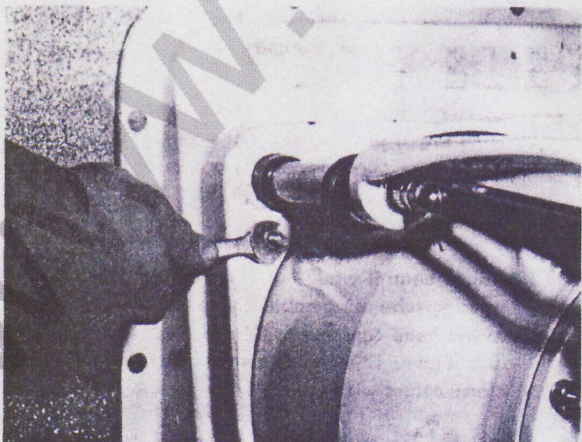

Figure 13
- 13 Fasten control cable end to transom adapter at hole drilled in step 4 using one 1/4"-28 hex nut (33) and one 1/4" flat washer (21) on each side of the transom adapter, applying silicone sealer between flat washers and transom (Figure 13).